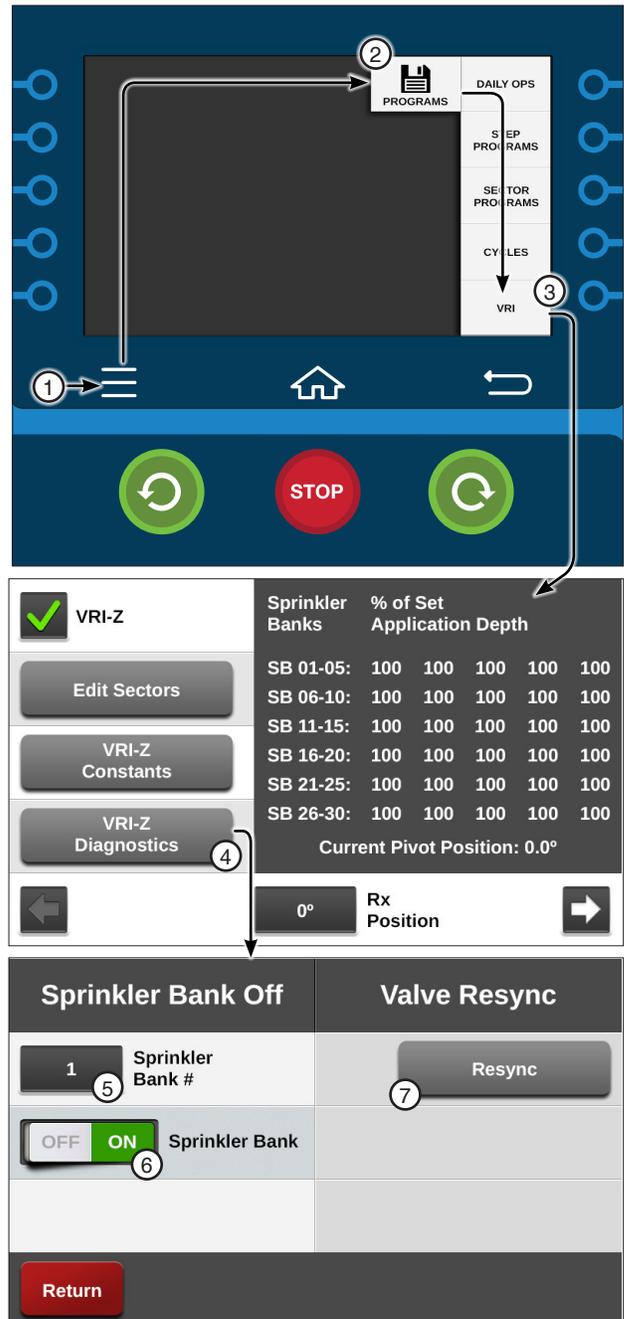

Figure 169-1 1. Menu
1. Push **Menu**, **Programs**, **VRI** and **VRI-Z Diagnostics** to display the VRI-Z Diagnostics screen. Refer to Figure 169-1.